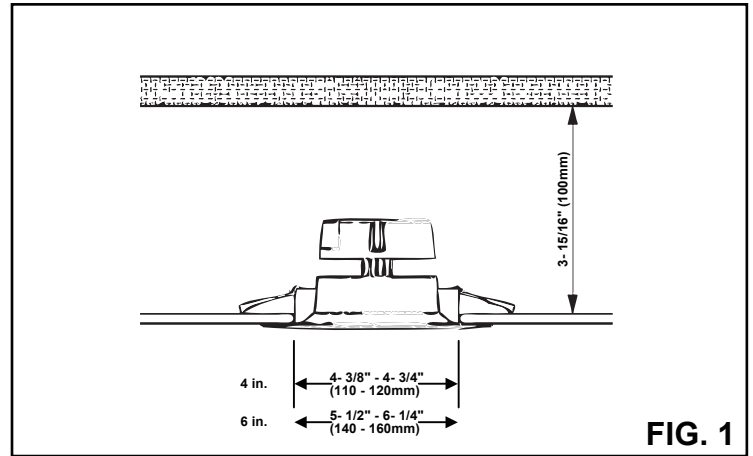

FIG. 1
2. Thermal radiation space and irradiation distance must be ensured. The height of the fixture should be no less than 3- 15/16" (100mm) (Figure 1).
3. Locate a suitable position to place the downlight and cut a hole in accordance to the cut-hole diameters as shown (Figure 1).